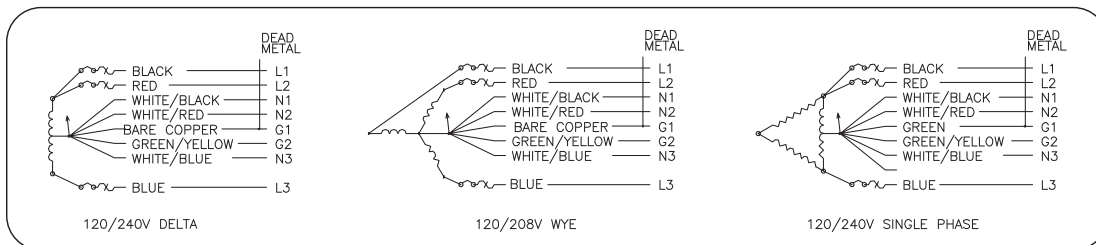

Figure 5 - Power Outlet Schematic
12. Reference Figure 5 for power schematic.